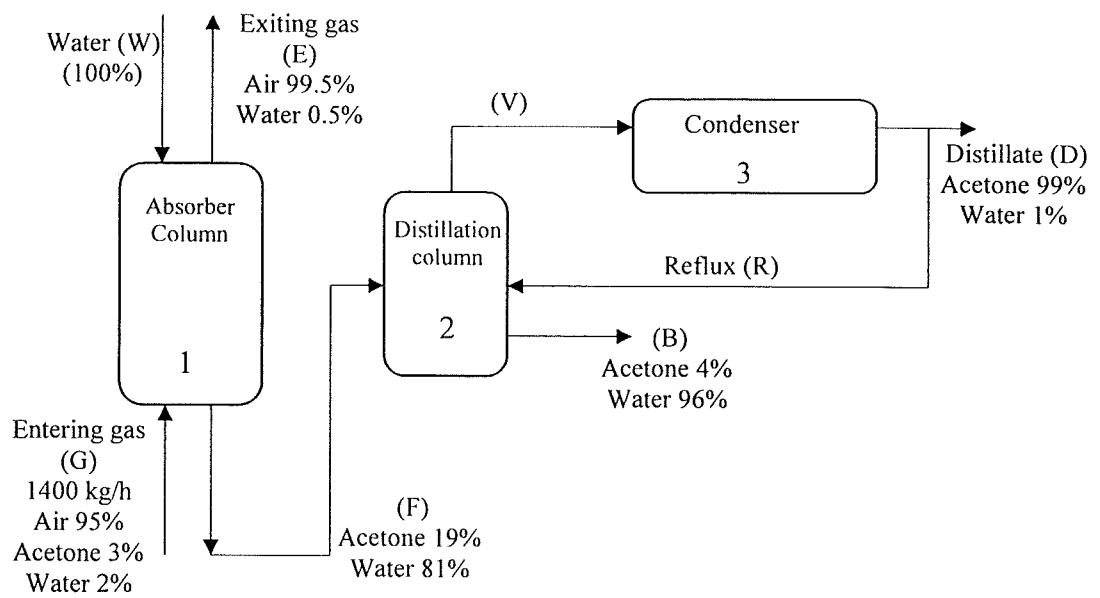

Figure 4 : Schematic diagram of absorption-distillation process
- (b). An absorption-distillation two-unit process of Polymer A is shown in Figure 4. The system is used to recover acetone from an acetone-air mixture (gas). In the absorber column, acetone in the gas mixture is absorbed by water which flows downward. The water-acetone mixture (liquid) from the absorber is then fed to the distillation column to separate acetone and water. The reflux ratio of the distillation column $R/D = 1.51$ (D , R , and V have the same composition). All the concentrations shown in the diagram are wt%. Calculate the flow rates (kg/hr) of W , G , E , F , B , D , R and V .